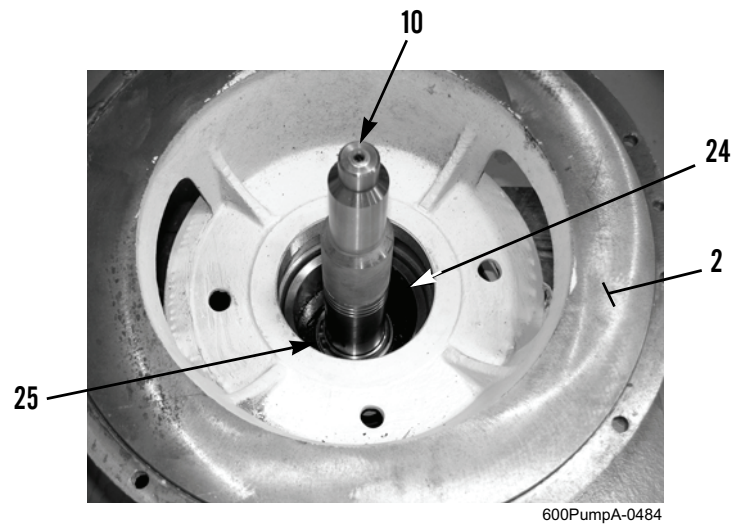

Figure 13. Impeller Shaft, Bearing, and Spacer.
5. Install impeller shaft (Figure 13, Item 10), spacer (Figure 13, Item 24), and assembled bearing (Figure 13, Item 25) into bore of intermediate housing (Figure 13, Item 2) until bearing seats squarely against bore shoulder. Tap on impeller shaft to assist installation.